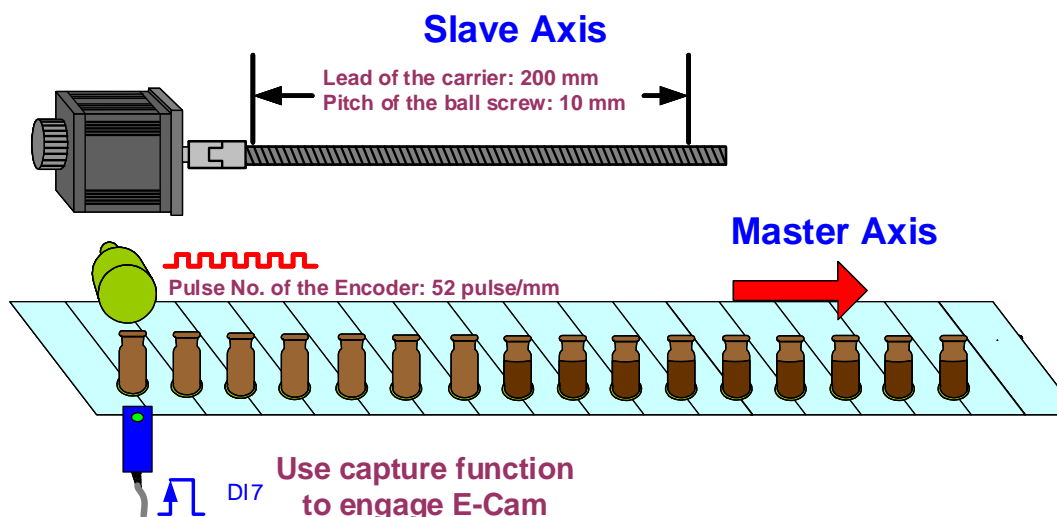

Figure 2.61 Mechanical Specification
The first step is to figure out the motion of the slave axis and mechanical specifications. Then, translate the motion into an E-Cam curve. Please note that the mechanical specifications might change the scale of the curve. The mechanical motion and specification below is also shown in Figure 2.61:
2. Specify the required pulse number when both master and slave axis operate every 1 mm. The unit of the master axis is pulse; the unit of slave axis is PUU. From Figure 2.61, we can know that when the master axis operates for 1 mm, the encoder will send 52 pulses; from calculation above, it takes 10000 PUU for the slave axis to operate every 1 mm.
PR#0: Homing procedure. Users can specify the homing method according to the mechanism. Take the mechanism in Figure 2.61 for example. The origin is on the far left. For this type of mechanism, it has to return to the origin first before taking the next step when system is started so as to avoid danger.